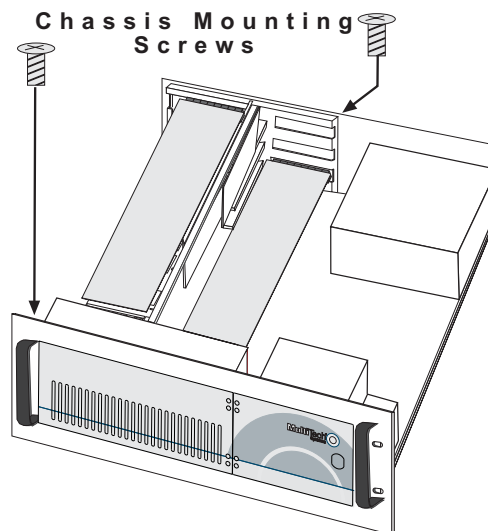

Fig. 4-4. Chassis Mounting Screw
- 3 Remove the chassis mounting screws from the card cage. See Figure 4-4.
- 3 Remove the two chassis mounting screws from the card cage. See figure 4-4.